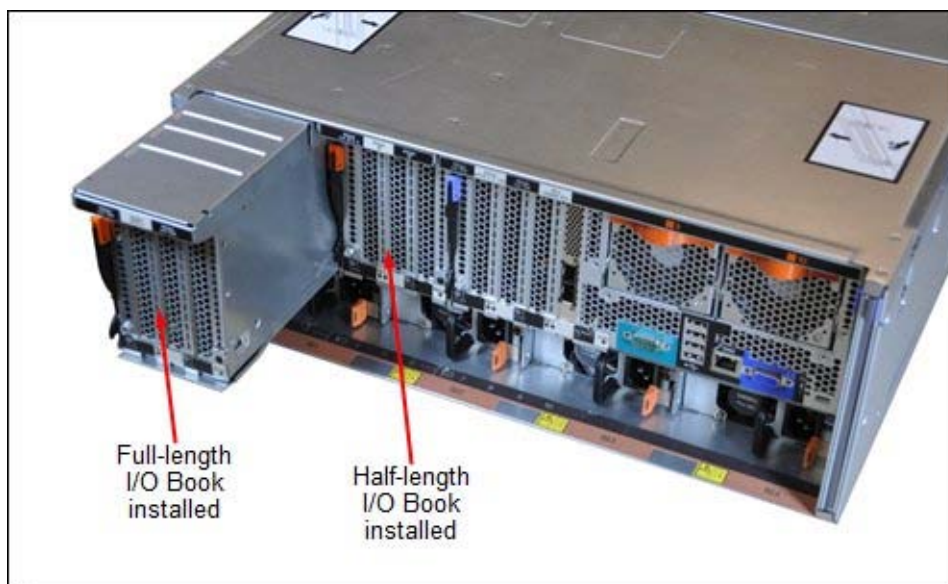

Figure 12. Optional I/O Books that are installed (x3850 X6 shown)
- These adapters are not available through CTO and cannot be shipped installed in the server because they are installed in the Full-length I/O Book, which extends beyond the rear of the chassis (see Figure 12). These adapters must be shipped separately from the server. Order the adapter and Full-length I/O Book as separate options.